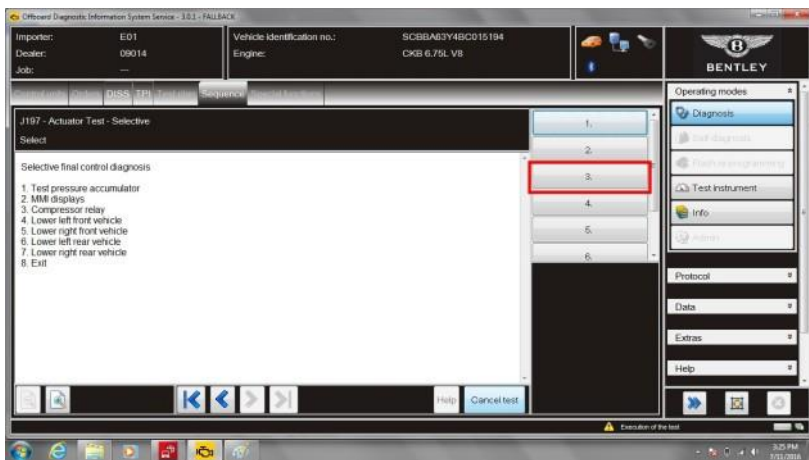

Figure 12.
Select item 3 - Compressor Relay – confirm the Airsuspension Compressor is now running – figure 12